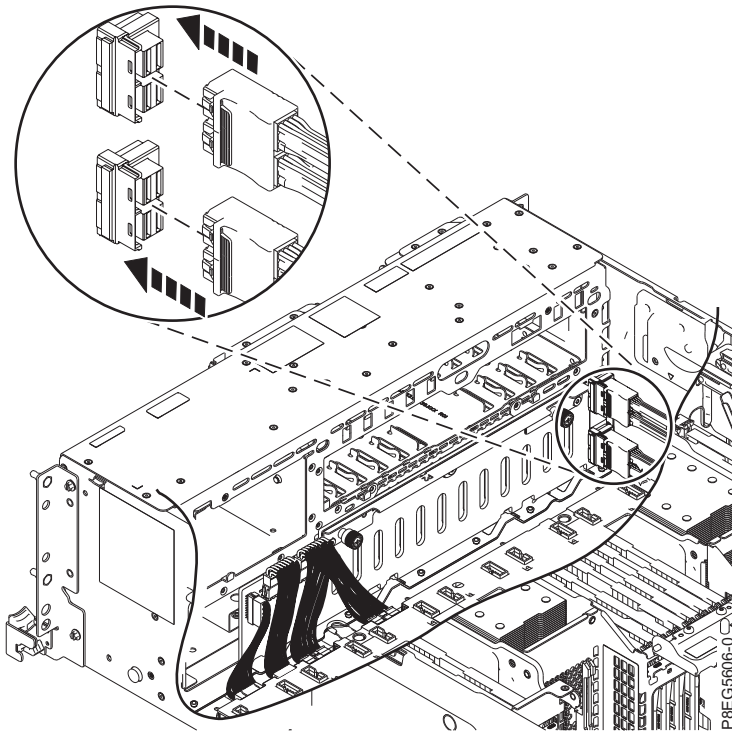

Figure 8. Reconnecting the front SAS cables
6. Reconnect the front SAS cables to the disk drive backplane as is shown in Figure 8. Push the connectors in until the latch clicks. Arrange the cables against the side of the chassis.